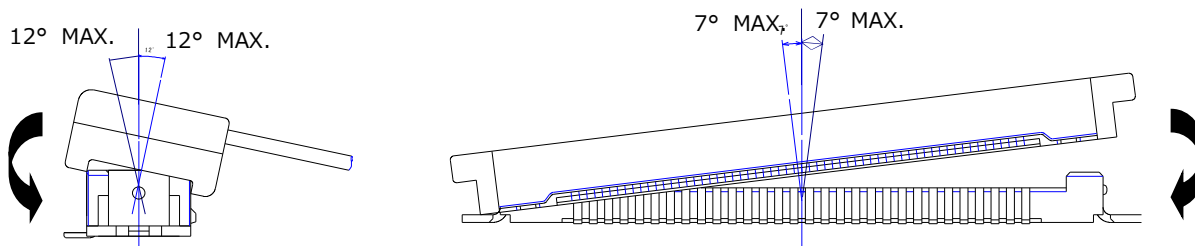

Fig.9 When one connector end is fully mated (Insertion angle allowance)
- The connector insertion angle allowance is given in Fig.9.